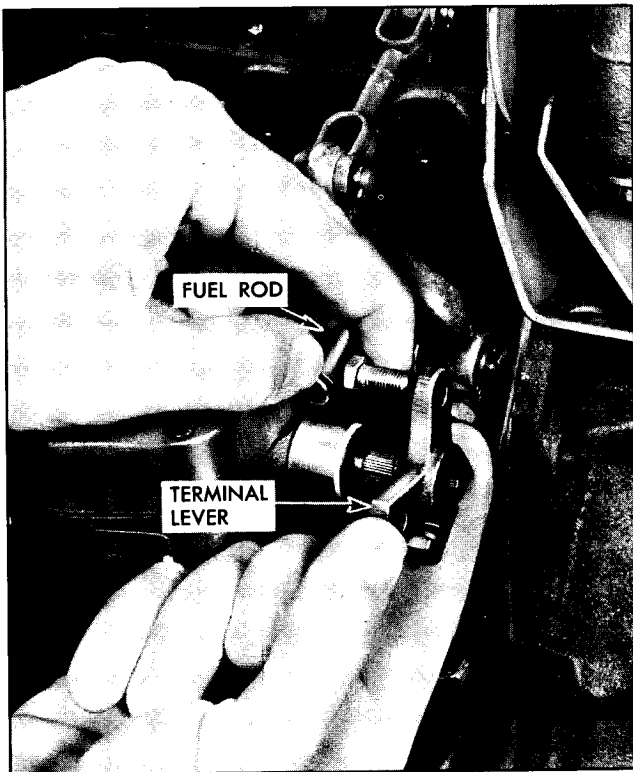

Fig. 3 - Adjusting Length of Fuel Rod
5. Hold injector rack control tube and the terminal lever in the FULL FUEL position and adjust the length of the fuel rod until the ball joint will slide freely into the hole of the terminal lever, as shown in Fig. 3. Tighten lock nut to retain ball joint and terminal lever clamping bolt securely.